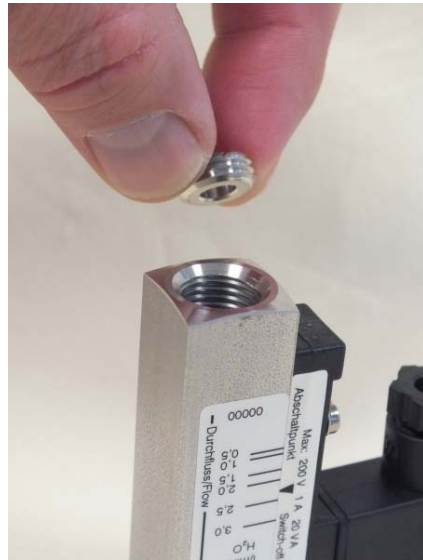

Fig. 42: Insert threaded ring (inlet)
1. ➤ Insert the threaded ring (inlet) into the device body (inlet) (Fig. 42)